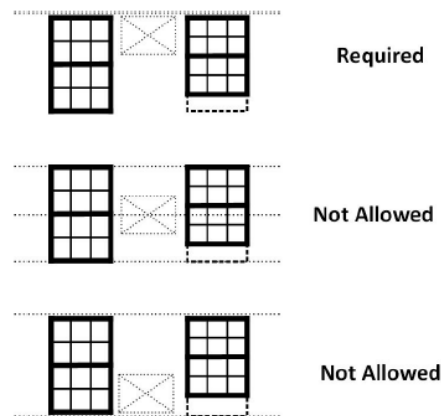

Figure 2. Allowed vertical alignments when the EACA is between windows. This is described in Question 2.
2. Is the vertical location of the EACA selected so that the top line of the EACA aligns with the top line of adjacent windows? (See Figure 1, first choice, and Figure 2.) If your answer is "No", skip to question 3.